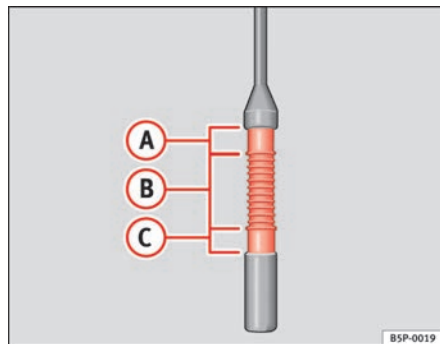

Fig. 123 Engine oil dipstick.
- Then pull it out once more and check the oil level ⇒ **fig. 123**. Top up with engine oil if necessary.